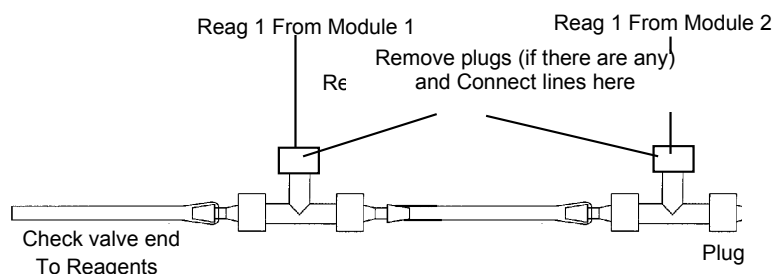

Figure 11. Reassembling Manifold String
- 70 If plugs are attached, remove them and connect the line for Reagent One from each module in the workstation to the manifold. Labels in the startup kit can be used to help identify lines. For example, if you have a two module workstation, connect the lines as shown in Figure 11.